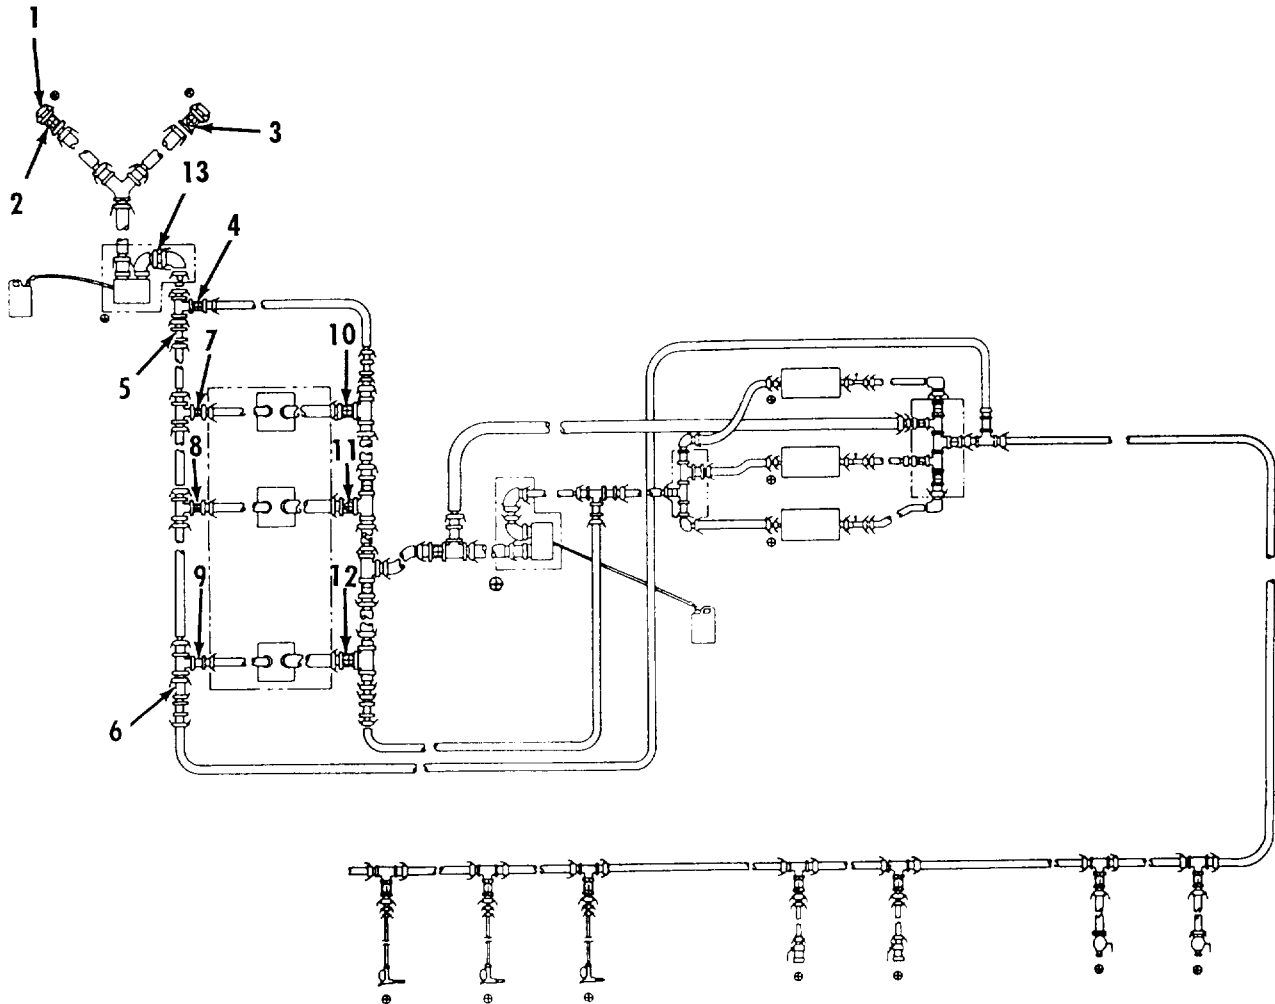

Figure 2-31. Defuel Mode - Valve Section to Fill Side of Fuel Tanks.
- (1) Defuel Mode - Valve Section to Fill Side of Fuel Tanks. Refer to figure 2-31.